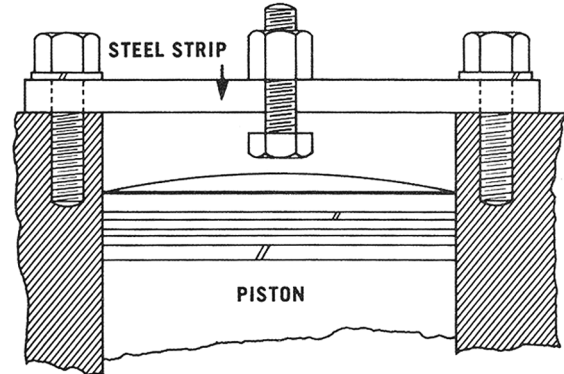

Figure 7
2. Obtain a stout strip of steel about seven inches long and drill three 1/2" holes in it (see Figures 7 & 8 for position of holes). This strip is placed across the center of the No. 1 cylinder bore and bolted on each end to secure it to the block. Caution: Be sure that the strip of steel is rigid enough so that it will not be deflected when the piston contacts the center bolt stop.